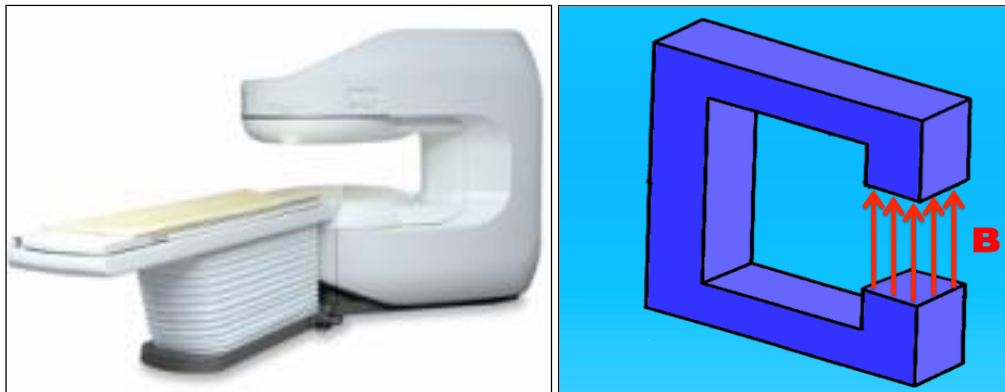

Figure 6. **Left:** permanent magnet scanner, **right:** c-shaped permanent magnet
- 2. Open bore scanners** contain an air gap between two magnetic poles. These may utilize permanent magnets or electromagnets. Permanent magnets in a C-shaped or horseshoe configuration. These operate at field strengths typically ranging from 0.064 T to 1.0 T (figure 6).